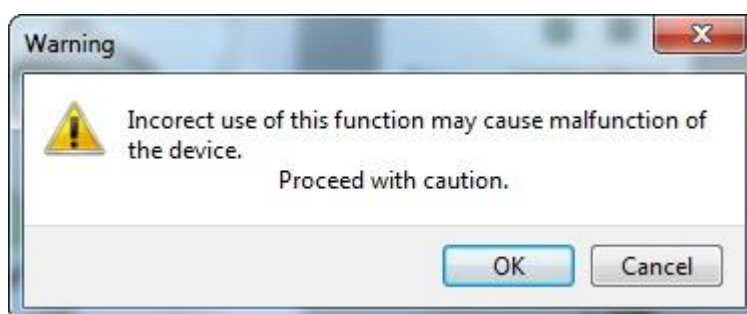

Fig. 18 Warning.
- Select: OK to start update (Fig. 18).